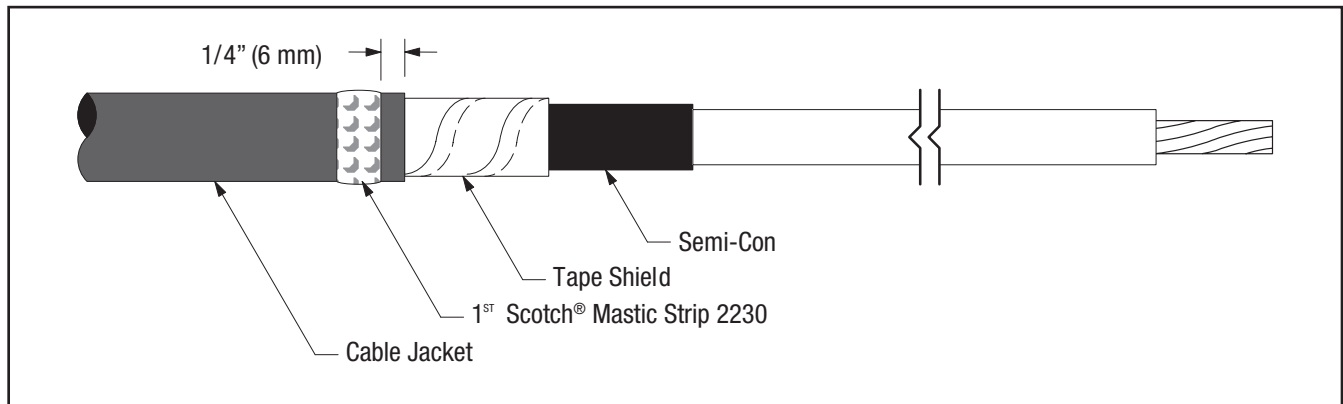

Figure 2
3.1 Select a Scotch® Mastic Strip 2230 from kit and remove white release liners. Using light tension, apply a SINGLE WRAP of mastic around the cable jacket 1/4" (6 mm) from cut edge (Figure 2). Cut off excess.